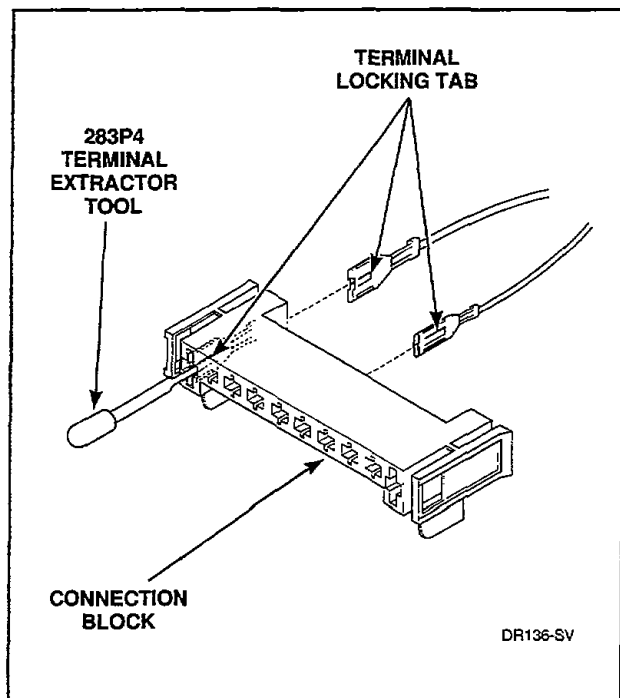

Figure 41
- a. Insert the tool into the connection block on the back of the terminal being removed, *Figure 41*.
- b. Apply tool pressure to compress the terminal locking tab on terminal and force the terminal out back side of connection block, *Figure 41*.